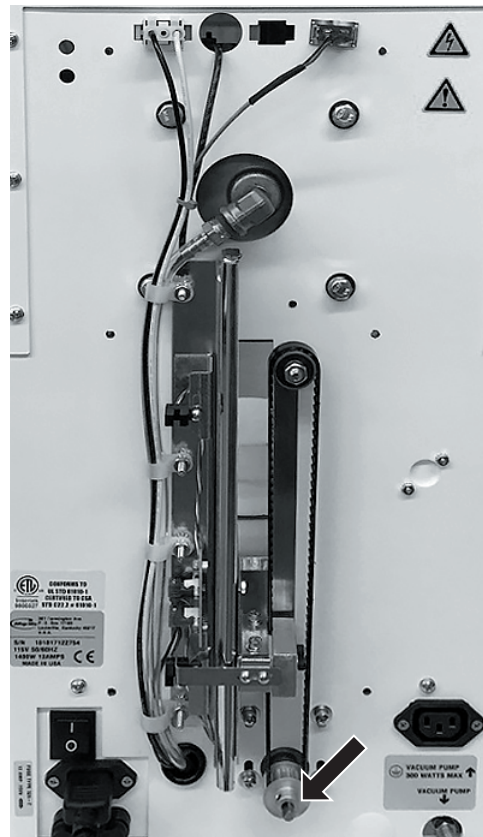

Figure 1
2. With pliers, turn the metal rod (see arrow in Figure 1) to raise or lower the table manually..